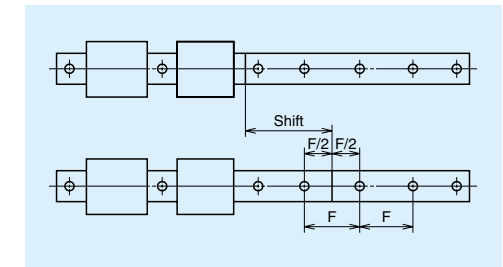

Fig. II-9-26
- The pitch of the rail mounting hole on the butting section should be as F in Fig. II-9-26. When two rails are used in parallel, the butted sections should not align. This is to avoid change in the running accuracy of the table at the butted sections.